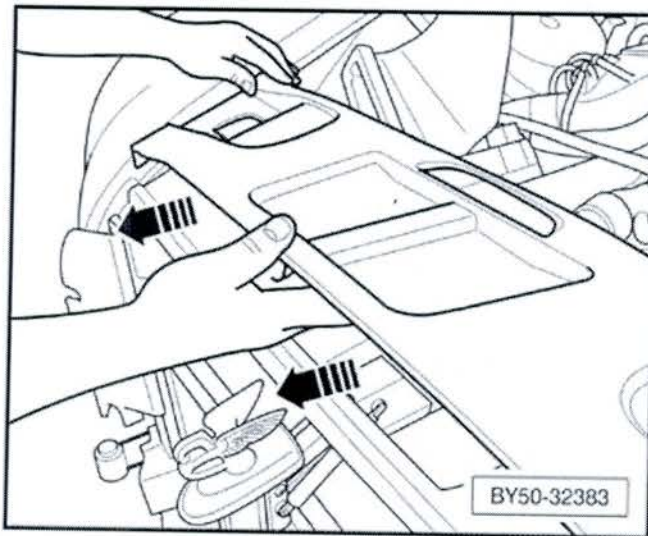

Figure 5
- Pull the plastic bridge moulding towards the front and remove the moulding (see Figure 5)